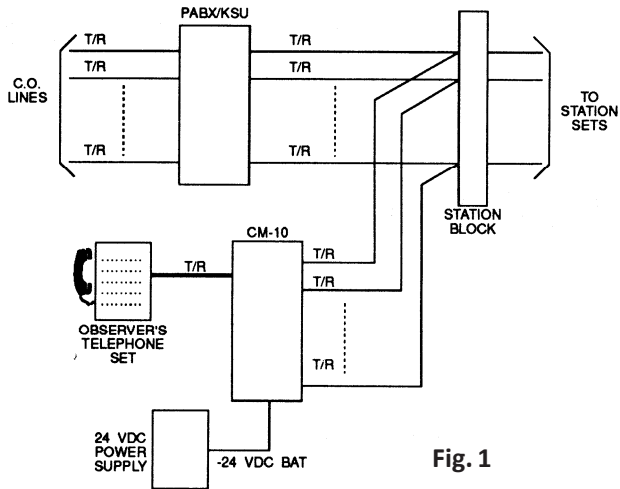

Fig. 1
- 2.2 **10 Line Capacity** through a key system telephone or a single-line telephone designated as the observer’s telephone. When a key system telephone is used, one pick-up key is dedicated for call monitoring. When a single-line telephone is used, the station is dedicated for call monitoring purposes only. Figure 1 and 2.